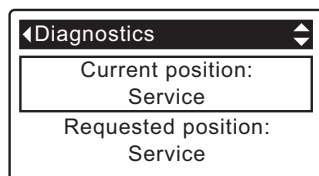

FIG. 89
4. Press the UP ▲ button to scroll through the list until **Current position** is displayed (See Figure 89).